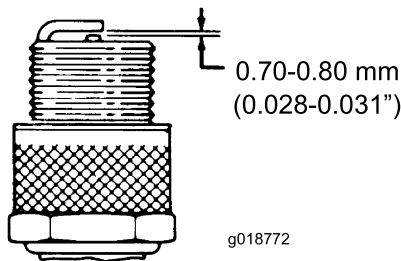

Figure 23
3. Set air gap at 0.70-0.80 mm (0.028-0.031 inch) (Figure 23). Install the correctly gapped spark plug carefully, by hand, to avoid cross-threading.